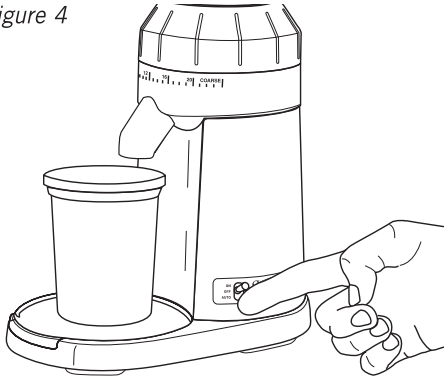

Figure 3
7. Insert a small container under the grinder, see Figure 3.